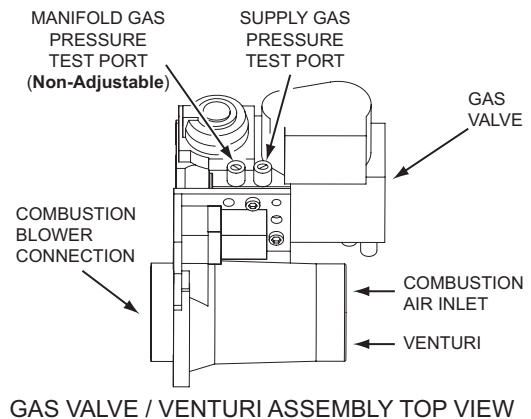
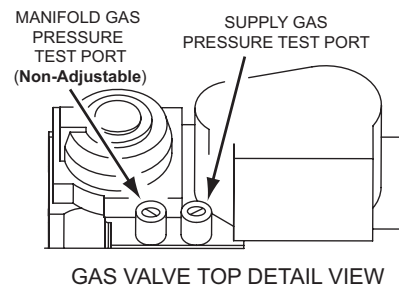

Figure 60
Figure 61
4. Wait five (5) minutes for any residual gas to clear.
5. Connect the manometer to the supply gas pressure port on the gas valve, see Figure 60 and Figure 61.
On the water heaters covered by this manual there are test ports for supply and manifold gas pressure readings on the gas valve. Using a small flat tip pocket screw driver - open the needle valve inside the supply gas pressure test port one full turn only; turn the needle valve screw counter-clockwise to open the valve. Slide the manometer sensing tube over the top of the test port, see Figure 60 and Figure 61.